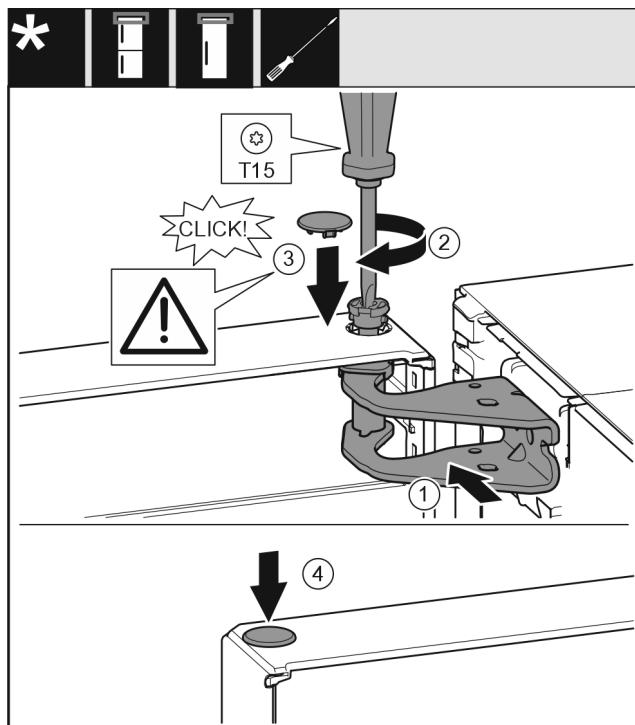

Fig. 16
- ▶ Align the top of the door with opening in the bearing bracket. Fig. 16 (1)
- ▶ Insert the bolt and tighten with a T15 screwdriver. Fig. 16 (2)
- ▶ Fit the protective cover to protect the door: Insert the protective cover and check that it is flush to the door. If not, insert the bolt fully. *Fig. 16 (3)*
- ▶ Insert the plugs. *Fig. 16 (4)*